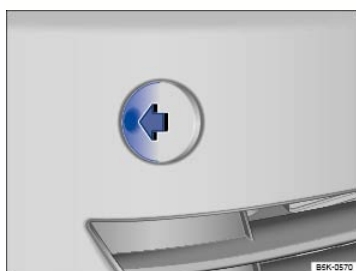

Fig. 237 In the right front bumper: Removing the cover.
- Push on the left side of the cover ⇒ *Fig. 237* (arrow) so that it pops out.